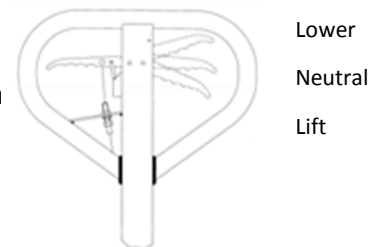

Fig. 9: Lever ACX10E
If necessary, you can adjust the lever according to following steps (Fig. 9):
- If the forks do not descent when the control handle is in the **Lower** position, turn the adjusting nut clockwise until raising the control handle lowers the forks. Then check the **Neutral** position according to fig. 9 and be sure that the adjusting nut is in the proper position.